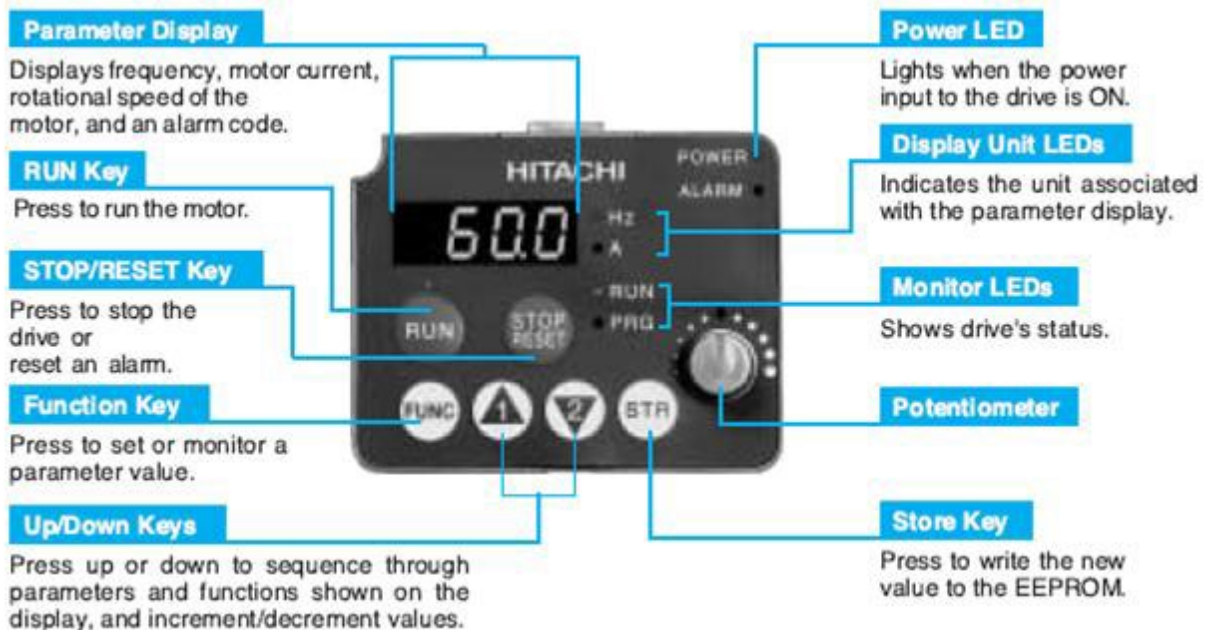

Figure 4.3.3.1
- The VFD is controlled by a Keypad/Display Interface. Refer to Figure 4.3.3.1 for Keypad/Display Interface functions and descriptions.